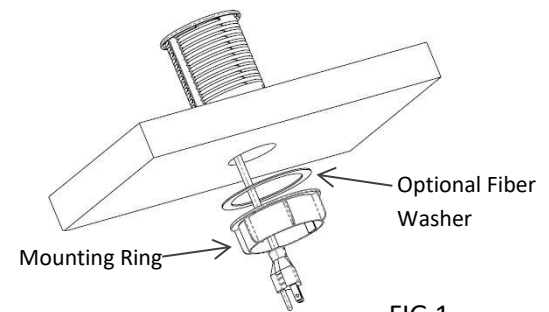

FIG 1
- 1-** Determine the Sand Dollar (A) mounting location and prepare the surface by cutting the mounting hole.
- 2-** Remove Mounting Ring and Fiber Washer from Sand Dollar by unscrewing them as shown in FIG 1. Retain for later use.
NOTE: If Mounting Ring disengages from threads before Sand Dollar is fully secure, remove and install Fiber Washer, as shown in FIG 1, and repeat step 3.